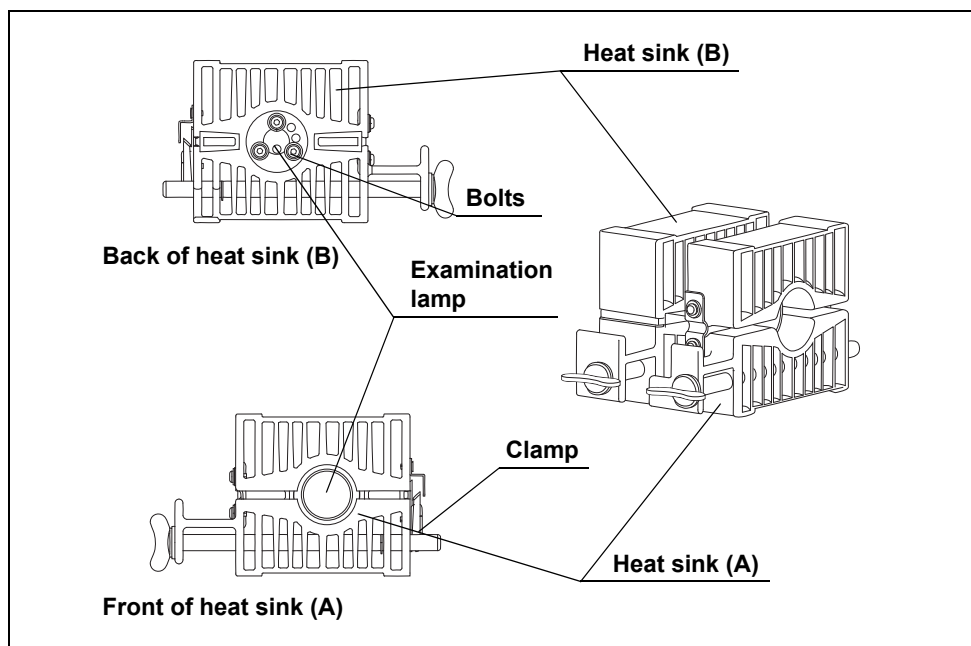

Figure 6.5
- 12** Remove the clamp of heat sink (A) and pull out the examination lamp. (See Figure 6.5)